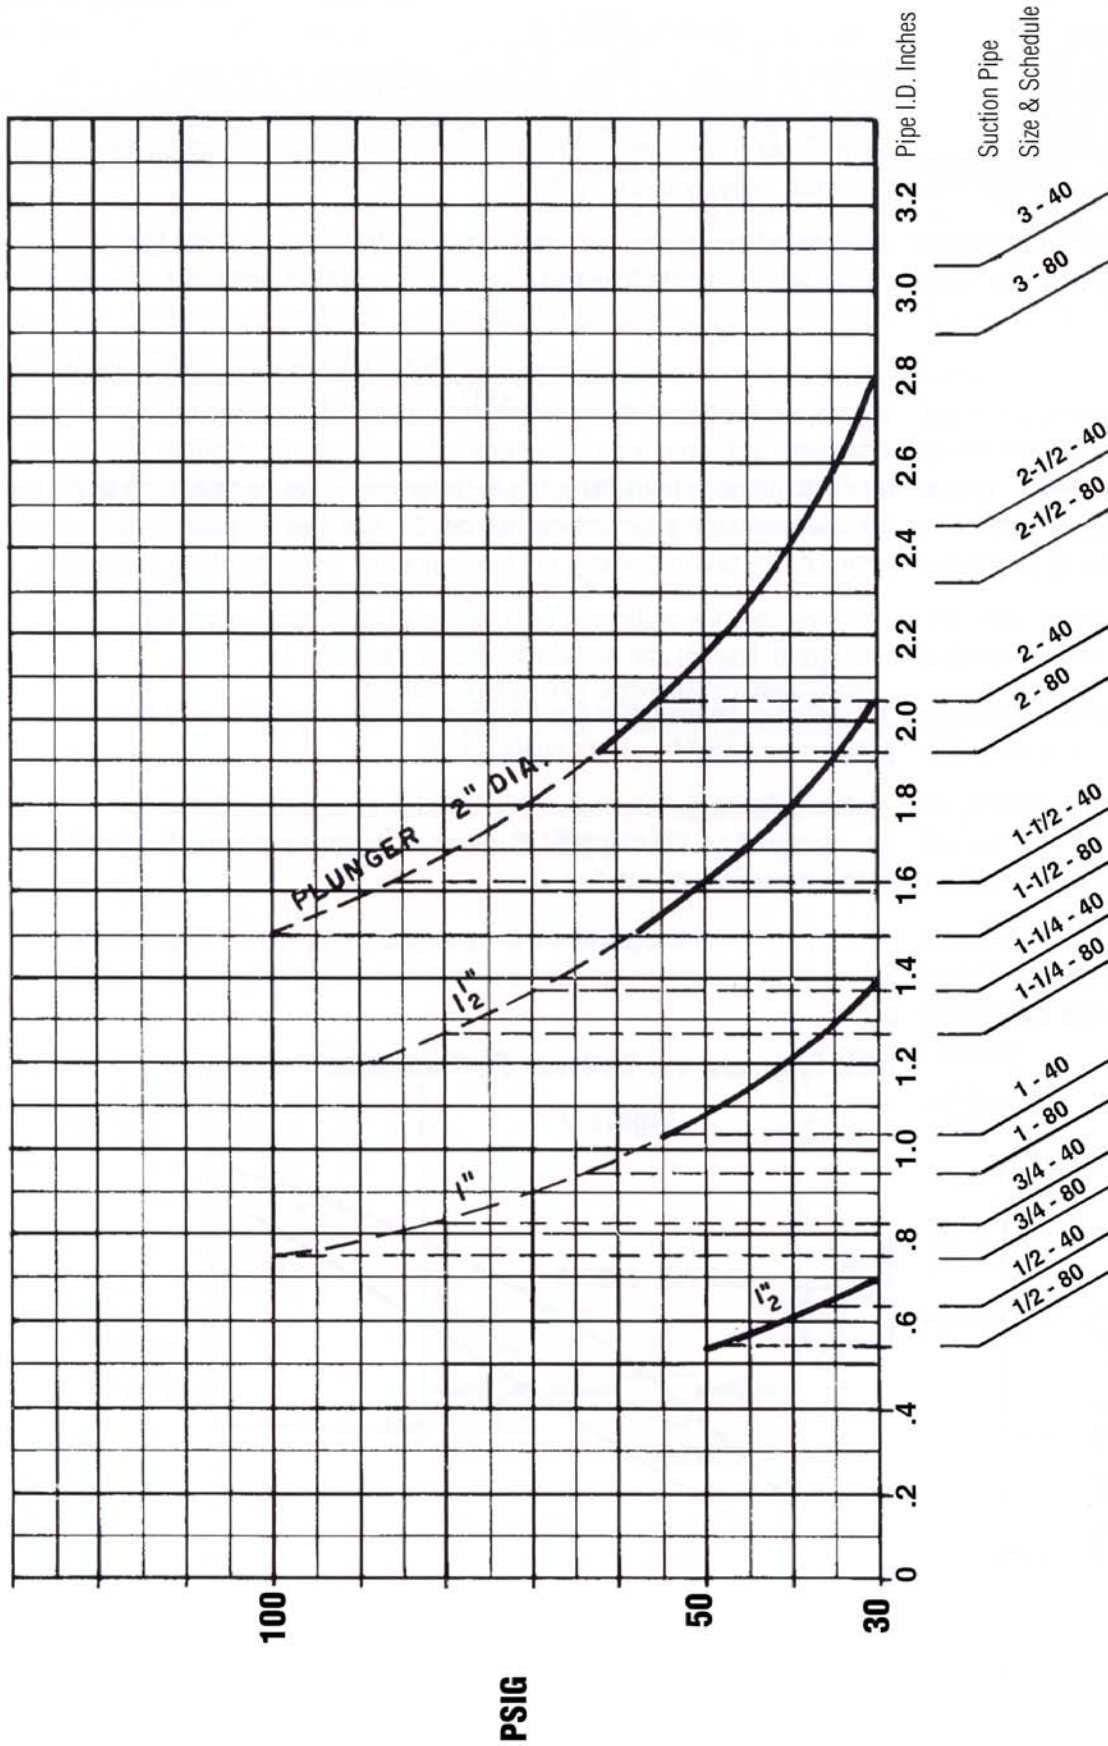

Figure 8
- In order to overcome inertia pressure in the lines to and from the pump, a minimum of 30 psig back pressure is required. Refer to Figure 8 for specific minimum back pressure based on plunger diameter and suction line inside diameter.